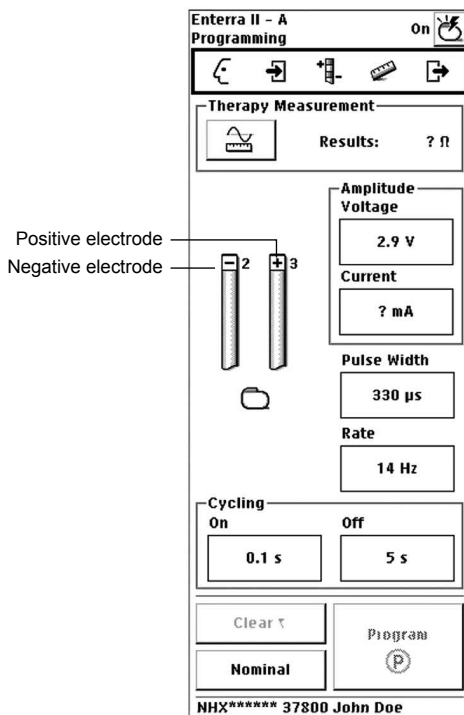

Figure 21. Programming electrode polarities.
2. Select each electrode to toggle between -, +, or blank (off) options (Figure 21).
6. Hold the programming head steady over the neurostimulator, then press the **Programming (P)** key or select the **Program (P)** button on the programmer screen.